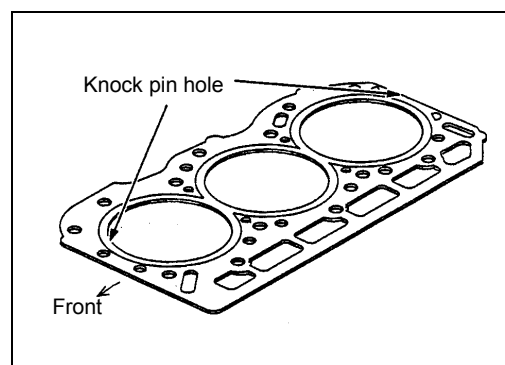
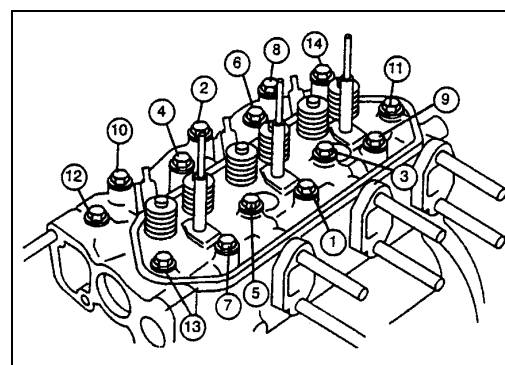

Fig. 5
Fig. 6
- [3] Place the gasket on the cylinder head and then mount the cylinder head. Tighten the 14 bolts in the numerical order shown in Fig. 6, and in two split operations. See Figs. 5 and 6.